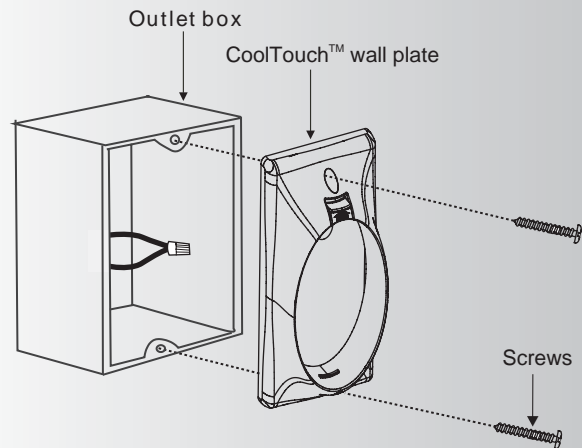

Fig. 27
Step 2. Install the CoolTouch™ wall plate to the existing wall outlet box with 2 screws provided. (Fig. 27)